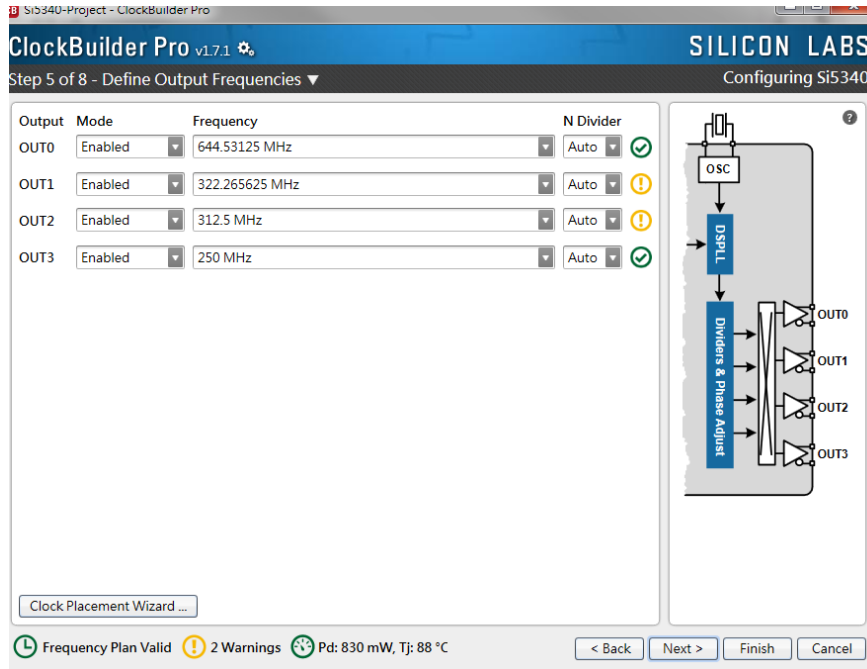

Figure 4-4 Define Output Clock Frequencies on ClockBuilder Pro Wizard
2. After the installation, select Si5340, and configure the input frequency and output frequency as shown in **Figure 4-4**.